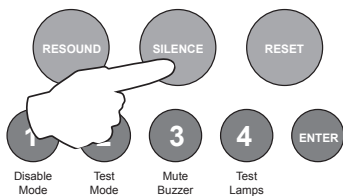
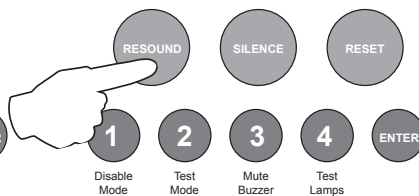

fig 1
fig 2
3. Only when it is safe to do so should the alarms be silenced. Activate the controls by entering the four digit code (see Activate Controls in the OPERATING section) and press the (blue) SILENCE ALARMS button (fig 1). To sound the alarms again press the (red) RESOUND button (fig 2).